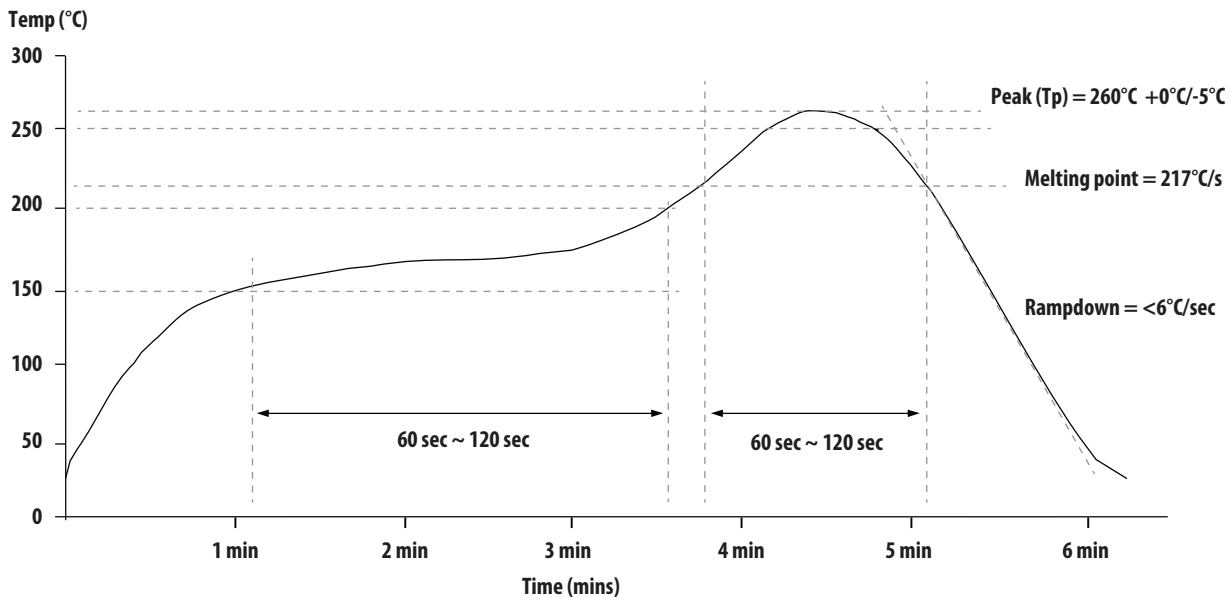

Figure 31. Recommended reflow profile
The recommended lead free solder for SMT reflow is Sn-Ag-Cu (95.5% Tin / 3.8% Silver/ 0.7% Copper). This lead free solder paste has a melting point of 217°C (423°F), the ternary eutectic of Sn-Ag-Cu system, giving it the advantage of being the lowest melting lead free alternative. This temperature is still low enough to avoid damaging the internal circuitry during solder reflow operations provided the time of exposure at peak reflow temperature versus time is shown in Figure 31.
The solder paste used in this evaluation is RX 303-92 SK HO(S) by Nihon Handa. Profile in Figure 31 is recommended in automated reflow process to ensure reliable finished joints. However, profile will vary among different solder paste from different manufacturers. Other factors that may affect the profile includes the density and type of components on the board, type of solder and type of board or substrate material being used. The profile shows the actual temperature that should occur on the surface of a test board at or near a central solder joint. During this type of reflow soldering, the circuit board and solder joints tend to heat first. The components on the board are then heated by conduction. The circuit because it has a large surface area, absorbs thermal energy more efficiently, and then distributes this heat to the components.